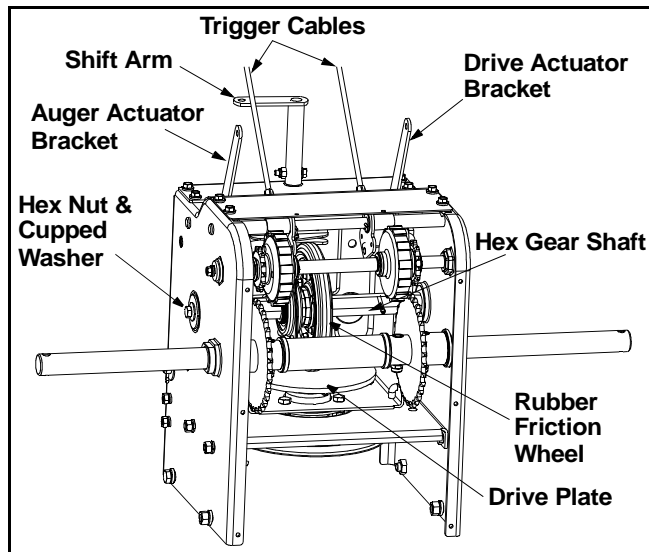

Figure 10
- With the traction control lever engaged, make sure the friction wheel solidly contacts the drive plate. See Figure 10.
Lubricate the gear shaft with 6-in-1 grease (part number 737-0170) at least once a season, or after every 25 hours of operation. Refer to Figure 10.
At least once a season or after every 25 hours of operation, remove rear cover. Lubricate any chains, sprockets, gears, bearings, shafts, and the shifting mechanism at least once a season. Use engine oil or a spray lubricant. Avoid getting oil on rubber friction wheel and aluminum drive plate. Refer to Figure 10.